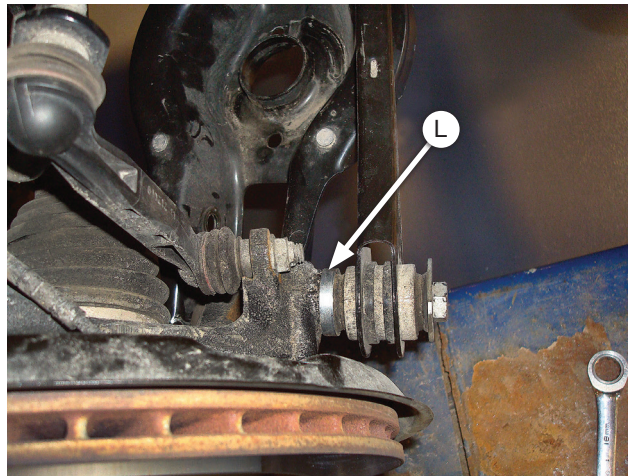

Fig. 14
1. Install spacer (L) between the toe link and hub. Reinstall bolt. Torque at desired ride height (Fig. 14).